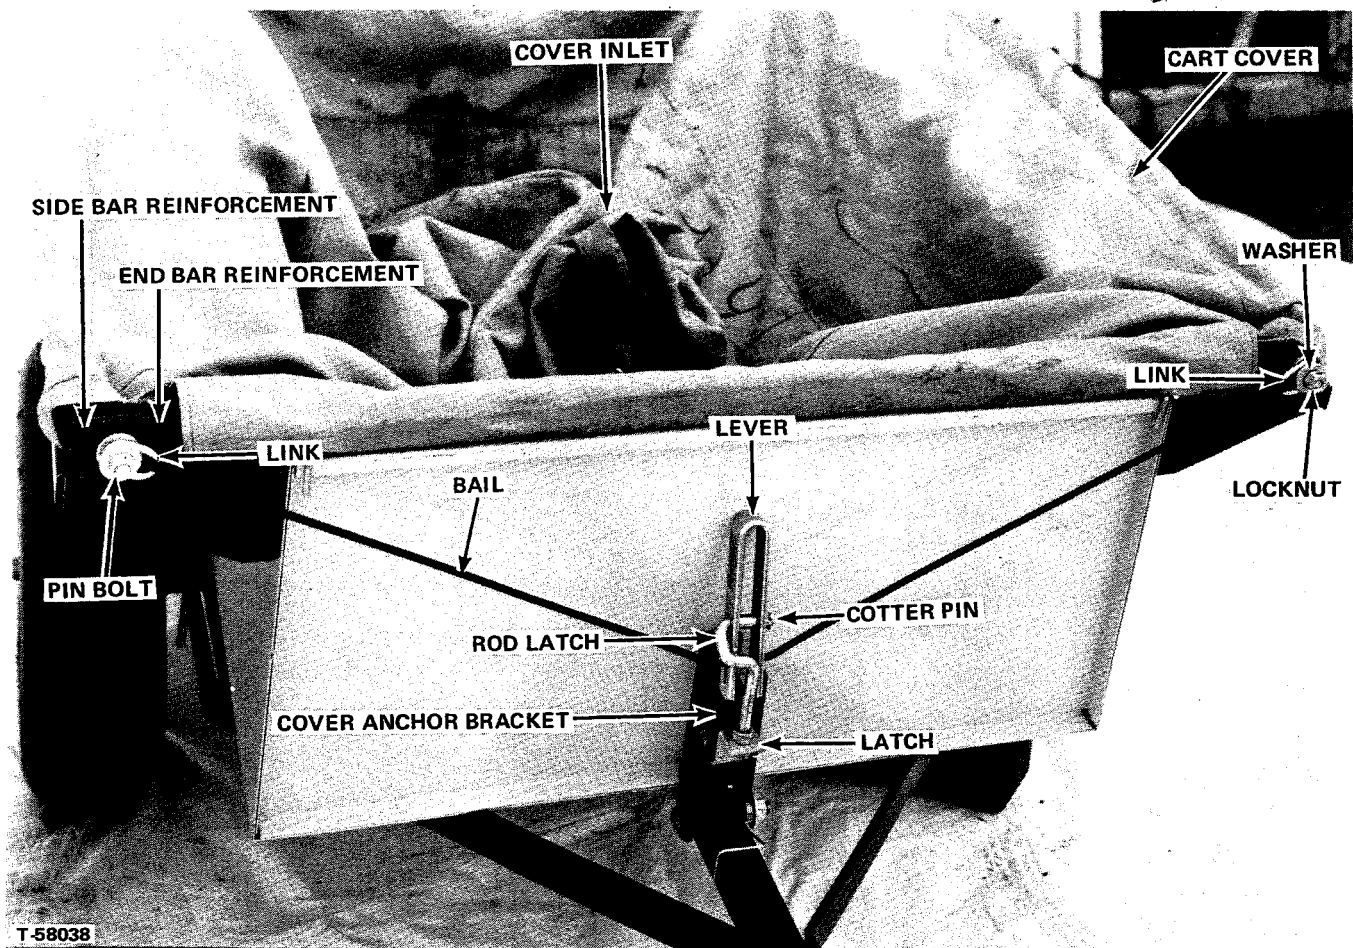

FIGURE 16
9. Place a locknut 14 on rod latch 11 and place through latch 12 and install 2nd locknut. Insert end of rod latch in holes in lever as shown in Figure 16 and install cotter pin in rod. Adjust position of latch on rod latch with nuts, 14, until pin bolts and the cover reinforcement bars are held snugly in place when latch is hooked under the cover anchor bracket and lever is raised to over-center position as shown in Figure 16.